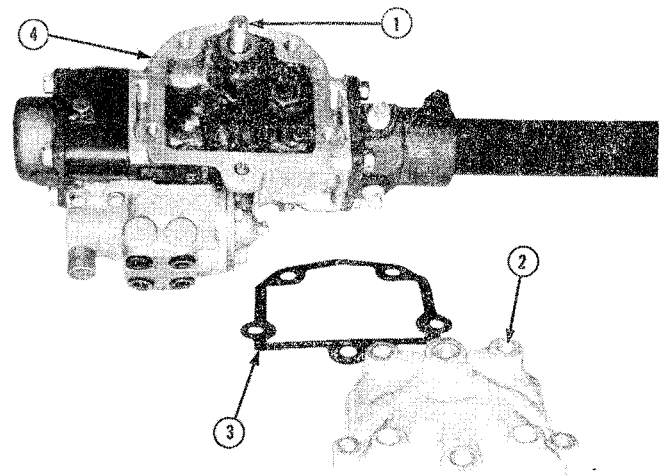

Figure 8-8
Screw in adjusting screw (1, Fig. 8-8) until cover (2) and gasket (3) can be removed from housing (4). Discard gasket.